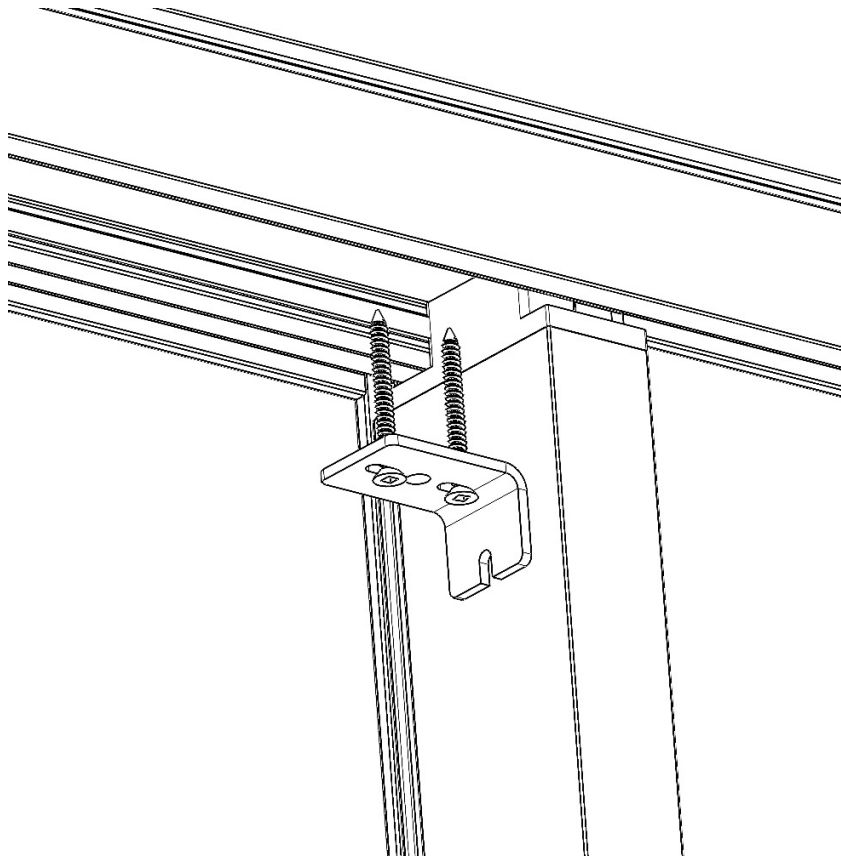

Figure 16
19. With the frame head parallel with the sill assembly, secure the fixed panel. Position the fixed clip into the head. Using the clip pre-drilled holes as a guide, drill clearance holes for assembly screws. Anchor the fixed clip to the frame head with a pair of #10 x 2" PH Flat Head screws. (See Figure 16).